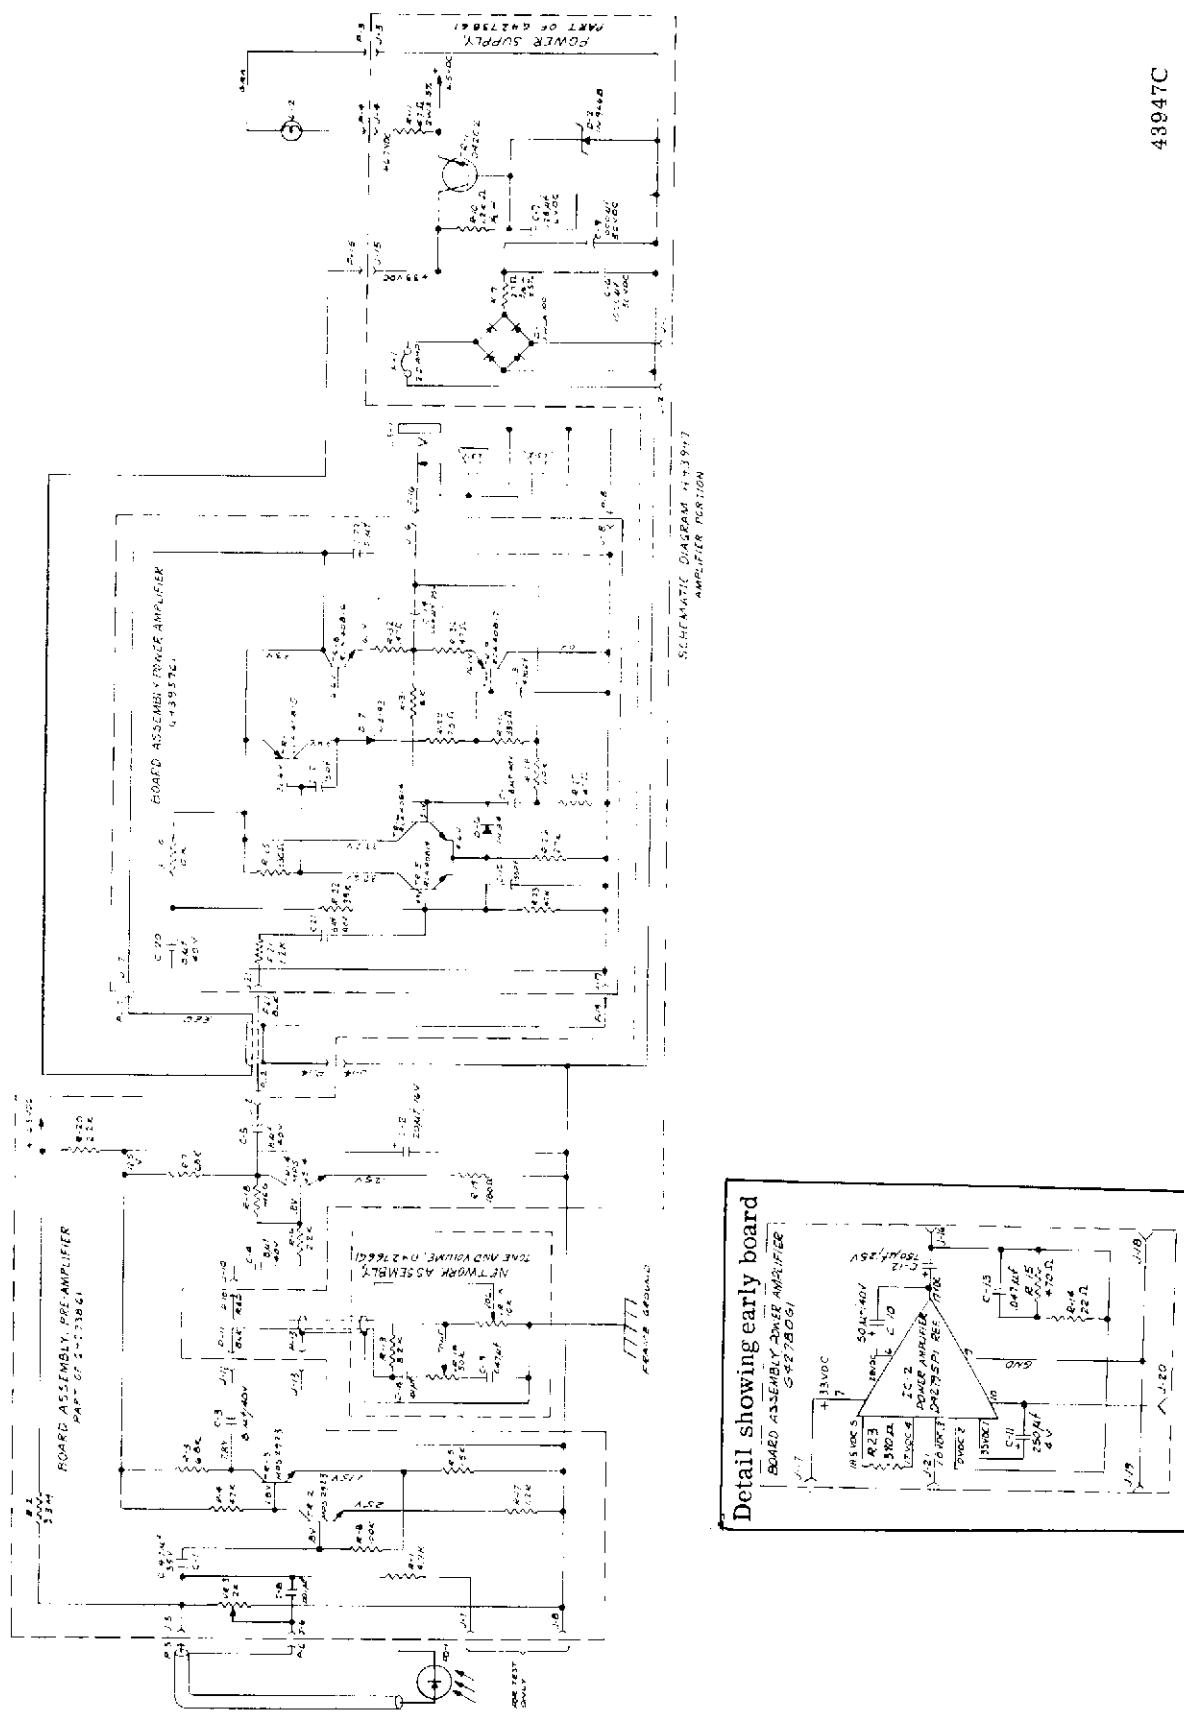

Figure 5-3. PROJECTOR SCHEMATIC DIAGRAM (10 Watt)
1. 10 Watt Amplifier (42738 Pre Amp and 43957 Power Amp Combination) (Figure 5-3)